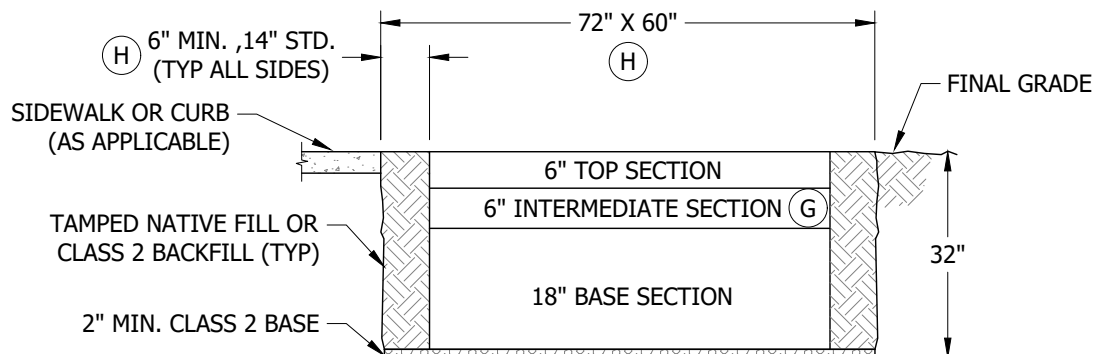

FIGURE 7
- AFTER THE LOCATION IS ESTABLISHED, MARK OUT DIMENSIONS FOR THE EXCAVATION WIDTH, LENGTH AND DEPTH PER FIGURES 7 & 8. THE WIDTH AND LENGTH DIMENSIONS GIVEN ALLOW EXTRA SPACE FOR SETTING THE SUBSTRUCTURE AND TAMPING THE BACKFILL.